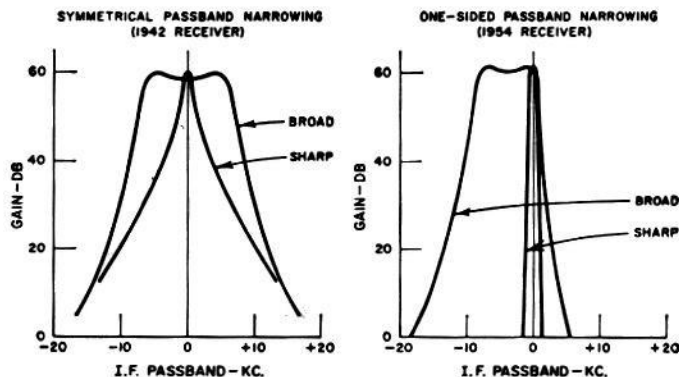

Fig. 7. Comparison between symmetrical and one-sided narrowing.
*Hallicrafters* introduced the "SX-88," which featured double conversion on all bands from 535 kc. to 33 mc. This receiver had two r.f. stages, tunable first oscillator, and selectable high i.f. channels of either 1.550 or 2.075 mc. The second conversion used crystal-controlled oscillators with a choice of either 1.500 or 2.125 mc. as beating signals. This permitted selection of either the upper or lower sideband output from the second mixer to be passed through a following 50-kc. i.f. strip. The 50-kc. i.f. featured eight tuned circuits in the three stages, with six-step variable selectivity without crystal filtering, the bandwidths ranging from 10 kc. to only 250 cycles on the "nose." An interesting aspect indicative of the selectable single-sideband approach was evident in the fact that bandwidth narrowing was not symmetrical. Instead, the carrier was located at one edge of the i.f. passband, with bandpass narrowing from one side as selectivity increased. See Fig. 7.